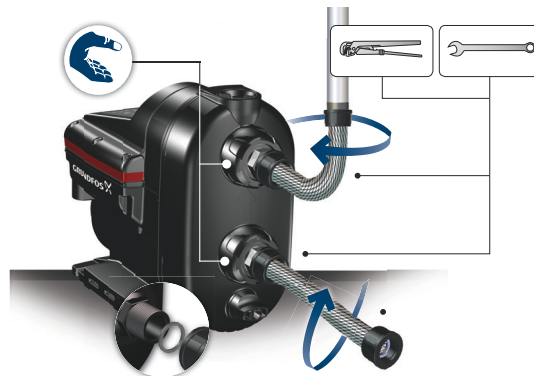

Fig. 2 How to fit the connections
2. Then fit the connections to the inlet and outlet holding the connections with one hand, and tightening the union nuts with the other hand. See fig. 2.